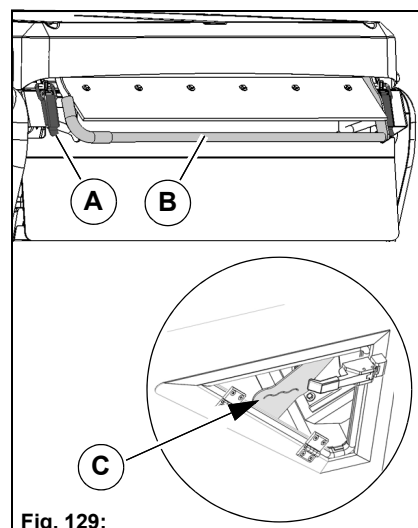

Fig. 129:
2. Open the lock **Fig. 129-A** of the dirt hopper.
3. Adjust the rear flap with the lever **Fig. 129-B**.
5. Fill the dirt hopper up to the mark of the plate **Fig. 129-C**. Filling volume for circulating water approx. 180 litres. After filling, check the function of the supply to the suction mouth.